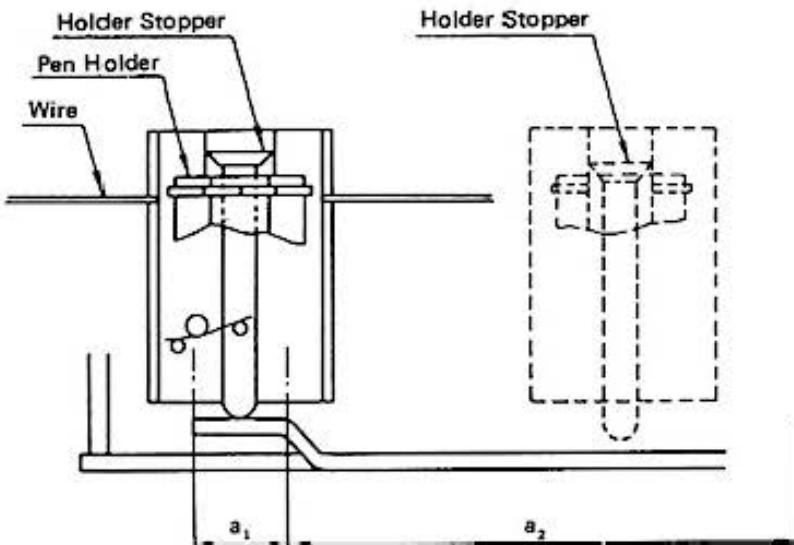

Fig. 5
To operate the color change mechanism, first, the slider is moved to the area $a \cdot 1$ in Figure 6 (45 pulses to the left from the origin). Then, the holder stopper in the slider contacts the projection on the holding plate, and the wedge section of the holder stopper slips out of the pen holder, which frees it to rotate. Next, by repeating the movement of the X motor for 30 pulses each in direction A and to the left, the pen (1) in Figure 5 changes to pen (2). The spring moves the holder stopper to the right until it returns to the origin. If then enters the pen holder groove. The pen holder is then fixed, and printing is ready.